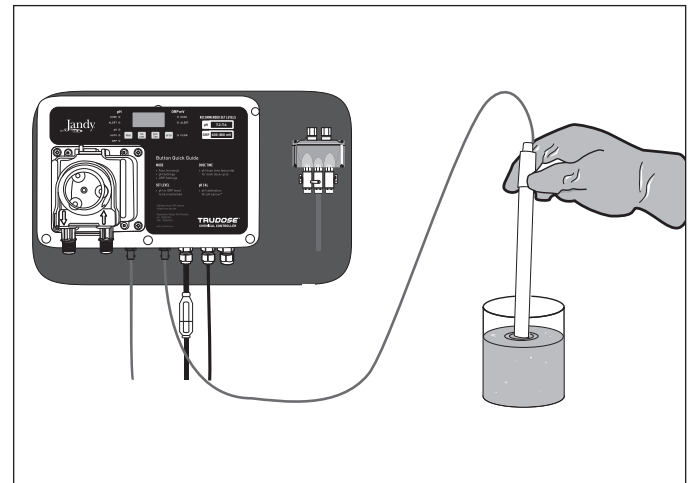

Figure 16. Check Sensors
2. While still attached to the controller, place the sensor in a clean glass of tap water. See Figure 16.
3. Place the sensor in a clean glass of tap water. The reading should show between 200mV and 400mV. See Figure 16.